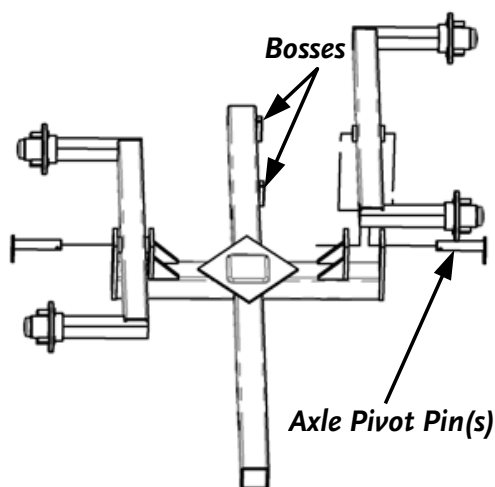

Figure 6
2. Turn the Main Frame upside down. Install the Axles to the Main Frame by inserting the Axle Pivot Pins, with the Tab facing downwards, from the outside of the Main Frame through the Axles. Align the Hole through the Tab on the Pin with the Hole in the Main Frame and repeat for opposite side (**Figure 6**).